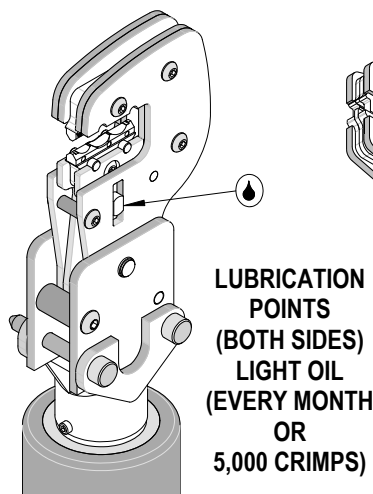

Figure 4A
3. Make certain all pins; pivot points and bearing surfaces are protected with a thin coat of high quality machine oil. Do not oil excessively. The tool was engineered for durability but like any fine piece of equipment it needs cleaning and lubrication for a maximum service life of trouble free crimping. Use a 30 weight automotive (light) oil used at the oil points, every 5,000 crimps or 3 months, shown in Figure 4A or 4B will significantly enhance the tool life.